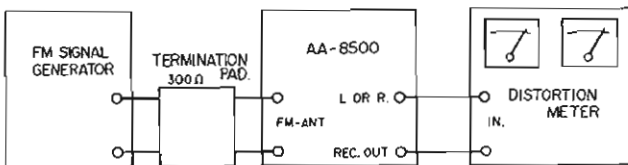

Fig. 9
- Connect the Distortion Meter to "TAPE-REC" terminal on rear panel (See Fig. 9).
Use the same instruments as used in item 3-3 (Fig. 9), and connect them in the same way.
- Use the same instruments as used in item 3-3 and connect them in the same way. (Fig. 9) Set the signal generator frequency to 98 MHz, and the output to 60 dB (1 mV). Turn the tuning dial of AA-8500 to receive this signal.